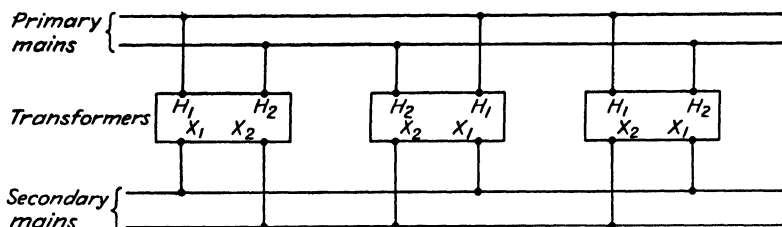

FIG. 5-19. Sketch illustrating manner of connecting single-phase transformers in parallel in accordance with polarity markings on transformer terminals.
**Use of Polarity Marking in Connecting Transformers.** *Single-phase.* When connecting two or more single-phase transformers in parallel, the terminals with the same markings should connect to the same lines. This will give correct results without testing. This rule is illustrated in Fig. 5-19.